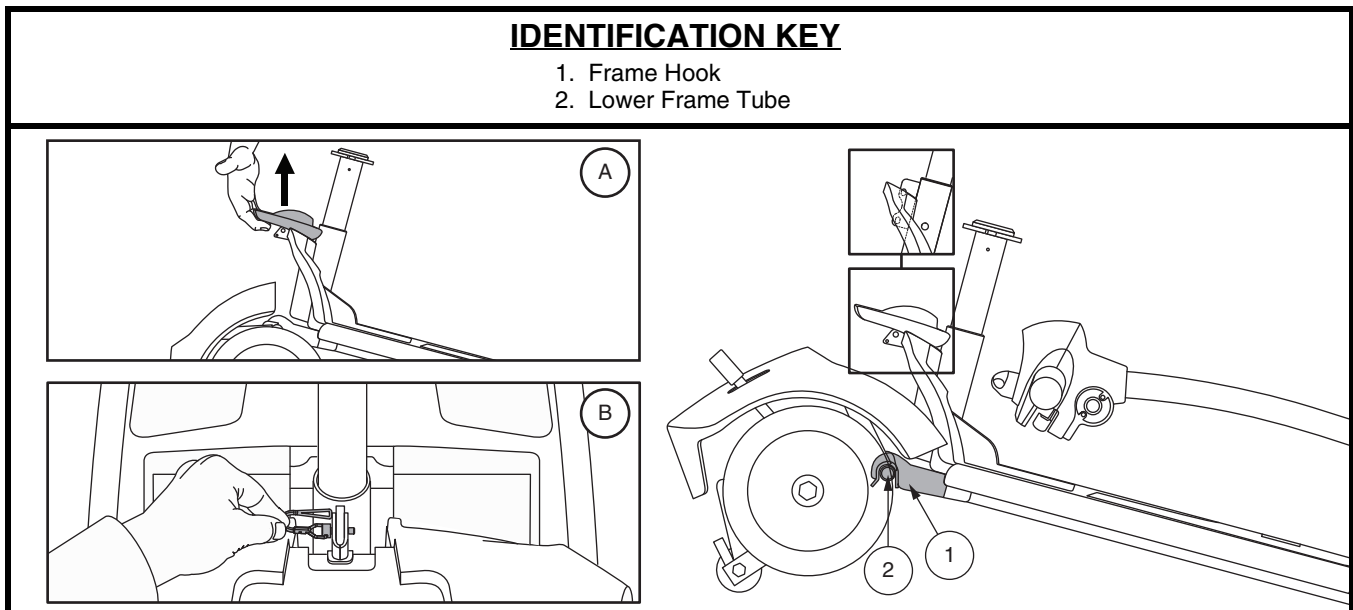

Figure 26. Frame Release Lever (Style A) and Frame Release Lock-up Pin (Style B)
4. Slowly separate the two sections of the Travel Scooter. **See figure 26.**
NOTE: Before attempting assembly, tilt the rear half of the Travel Scooter slightly back on the anti-tip wheels as shown in figure 26.
1. Use the frame release lever (or the seat post for models 36, 83, and 84 only) to lift the front section as you align the frame hooks of the front section with the lower frame tube of the rear section. **See figure 26.**
2. Once the frame hooks are over the lower frame tube, lower the front section and pivot the rear section simultaneously. This will engage the frame lock-up automatically for models 40X, 44X, 40E, 44E, 40LX, 44LX, 50LX, 54LX, 53, 53HD, 54, 54HD, 73, and 74. For models 36, 83, and 84, you will also need to reinstall the frame lockup pin to complete the body assembly. **See figure 26.**